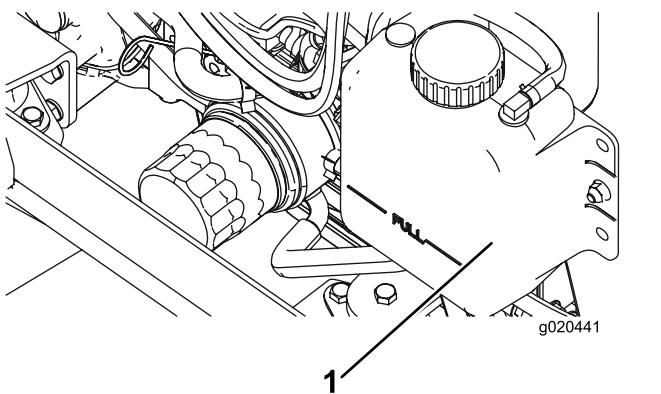

Figure 111
1. Carefully remove the radiator cap and expansion-tank cap (Figure 111).